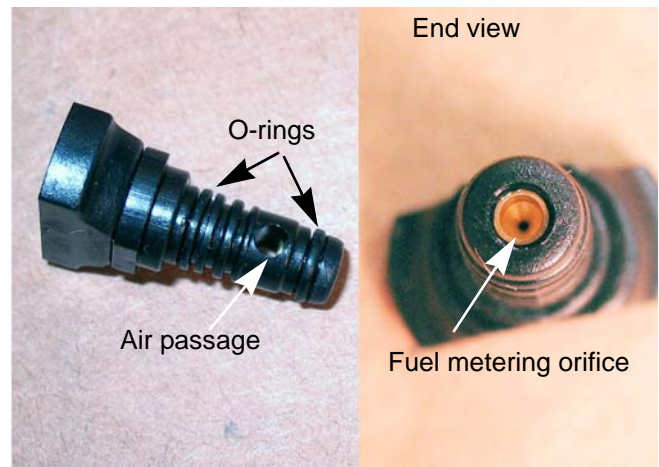

Figure 4.19
12. Examine the metering plug: See Figure 4.19.